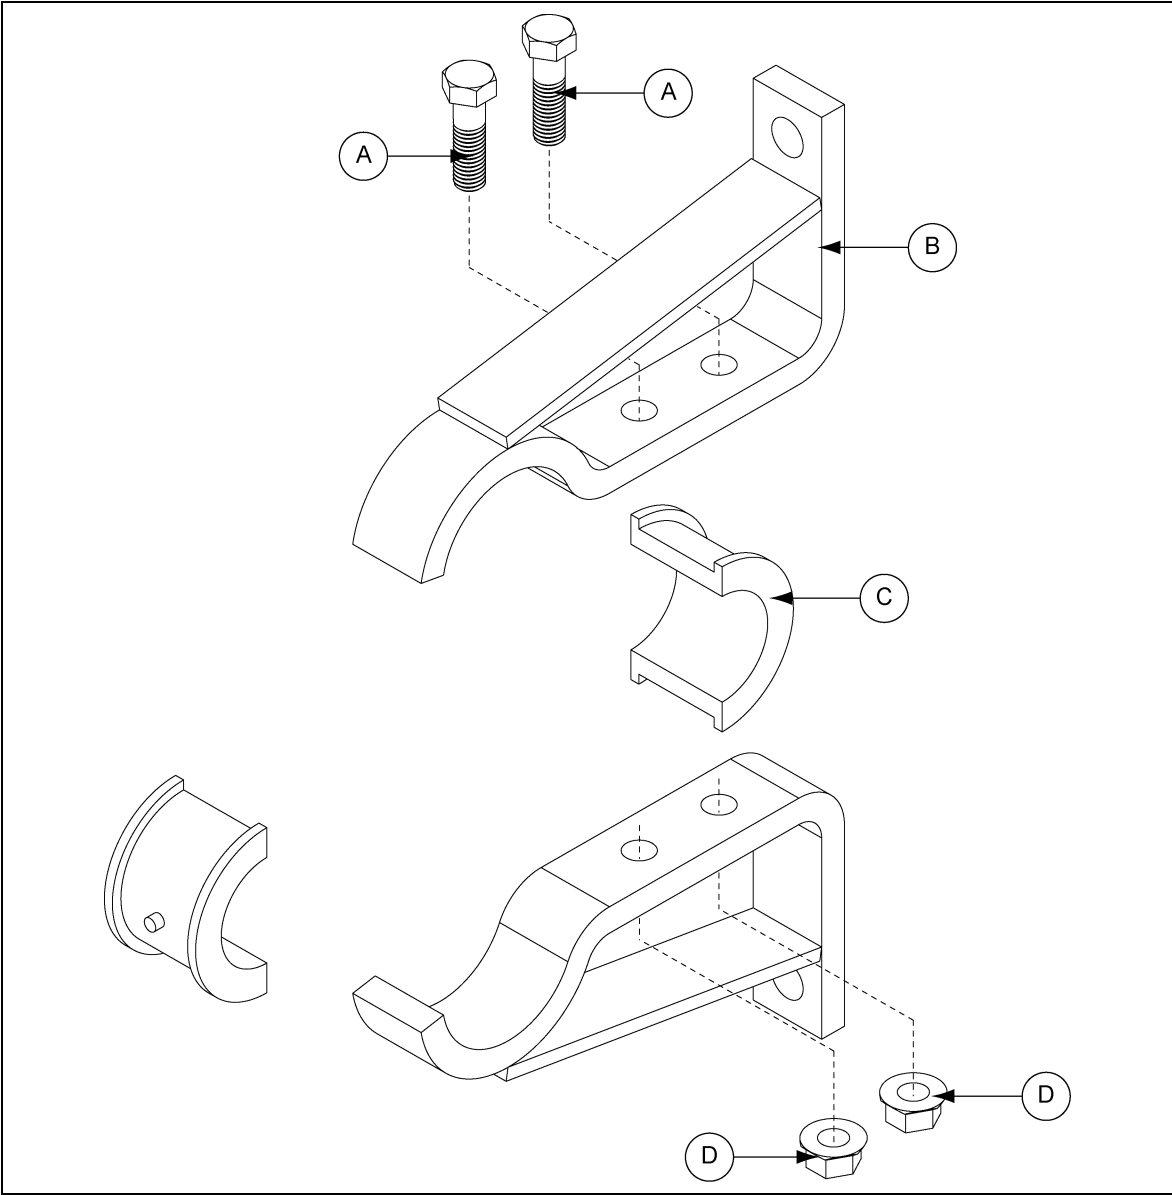

Figure 7Q
- 1. Bolt the bronze bearings (C) and hanger brackets (B) together using hex bolts (A) and flange lock nuts (D) as shown. (See Figure 7Q.)